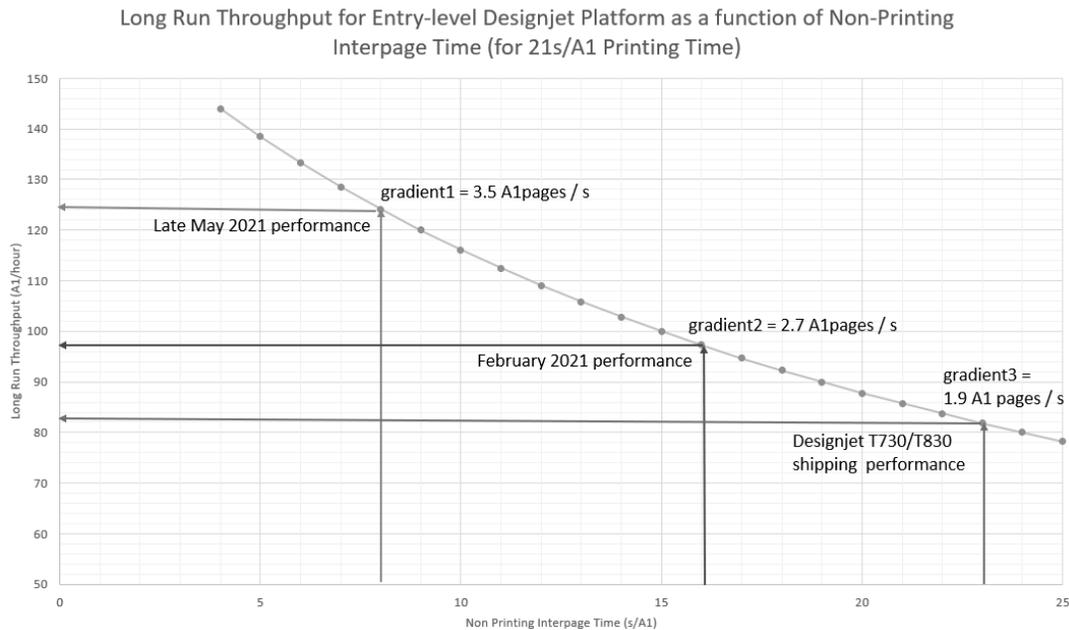

Figure 5: Partial Trade-off Curve, diagramming productivity throughput as a function of non-printing time; and illustrating incremental savings
- Building upon this, we start off stronger, and therefore allow all further incremental speeds and action removals to have a higher contribution, as illustrated in Figure 5.